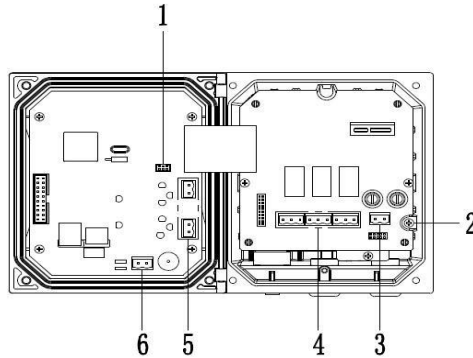

Figure 7 Preview of the Wiring
Figure 7 is the preview of internal wiring of the transmitter. Table 3 is the wiring signal of the transmitter.
A. The transmitter is equipped with MODBUS RS485 communication function, please refer to this manual section 2.1.3 figure 7 to check the communication wiring. The transmitter is with RTU mode of communication, and the default baud rate is 9600, the specific MODBUS RTU table is shown in the following table.